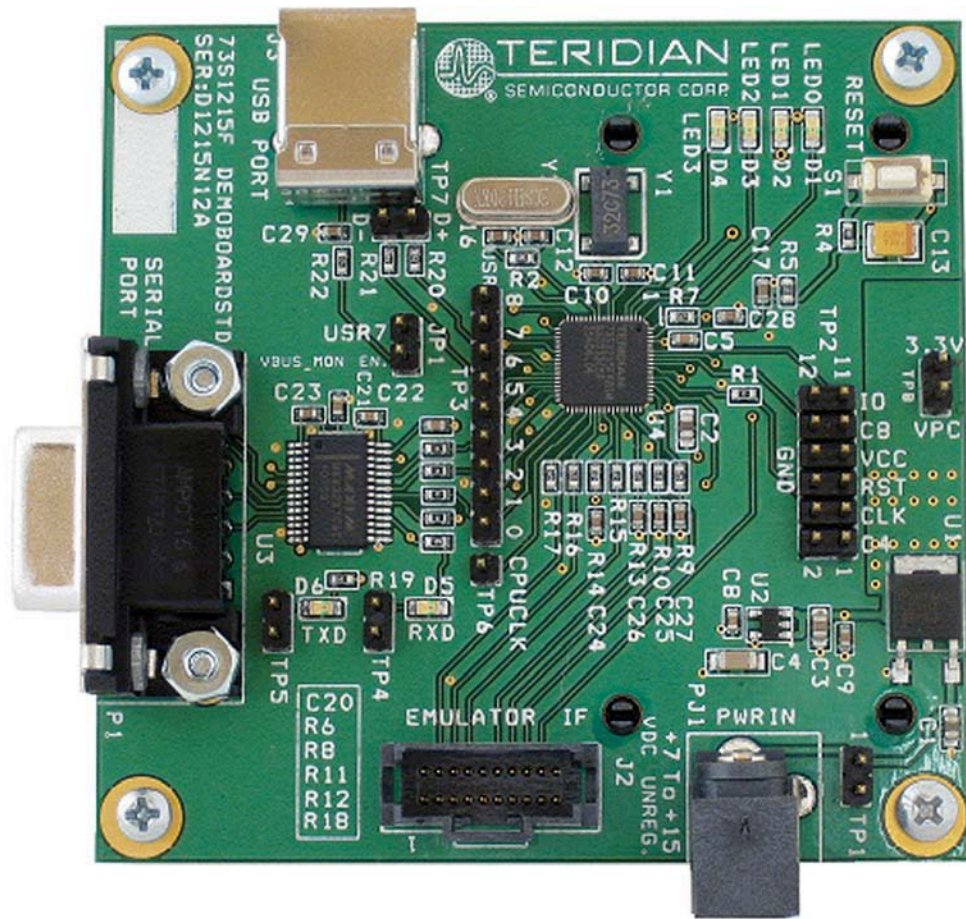

Figure 1: 73S1215F Evaluation Board Lite
- 73S1215F Evaluation Board Lite: 4-layer, square PWB as shown in Figure 1, containing the 73S1215F with the preloaded turnkey program USB CCID.
The 73S1215F Evaluation Board Lite (see Figure 1) includes the following features: